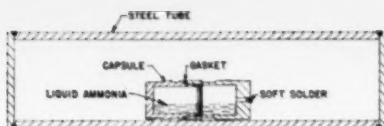

Fig. 1—Method of using an ammonia filled capsule for pressure nitriding the inner surface of tubes.
We have used two general methods of pressure nitriding with equal success; in one case the ammonia is introduced into the vessel in the liquid state and in the vapor state in the other. The choice of the method depends on the type of parts to be nitrided. Fig. 1 shows the arrangement used for nitriding the inner surface of alloy steel tubes. In this case, the ammonia is introduced by means of a small steel capsule containing the proper quantity of liquid ammonia to nitride the inner wall of the tube to the depth desired. The cover of the ammonia capsule is drilled with a small hole which is plugged with a low melting point solder. The ammonia capsule is then placed into the steel tube and end plates, or plugs, are welded onto the tubes as shown. As the tube is heated in the furnace, the soft solder melts and the ammonia vaporizes and expands throughout the interior of the tube to be nitrided. Other methods of releasing ammonia from the capsule, as a result of pressure, temperature, or mechanical manipulations, can be utilized—but the soft solder plug has proven entirely satisfactory. Such tubes can be rotated on
Fig. 2—This is the equipment used to fill capsule with liquid ammonia for use as shown in Fig. 1. A temperature of  $-50^\circ \text{ F}$ . is maintained in the refrigerator.
When introducing ammonia in a liquid state, as shown in Fig. 1, it is necessary to have information regarding the pressure obtained at the nitriding temperature with a given vapor density, or specific volume, of superheated vapor at the nitriding temperature. Fig. 4 shows the relation between density and pressure of superheated ammonia vapor for densities ranging from zero to 0.7 lbs. per cubic foot. This curve was obtained by the extrapolation of published data on the thermodynamic properties of ammonia(5)(6) which are limited to a temperature of approximately 400° F. The actual pressures obtained will be somewhat higher because of increasing dissociation of ammonia at higher temperatures. The reaction of equations (A) and (B) indicate that the pressures shown in Fig. 4 could reach values twice as great as those shown if the ammonia dissociated completely into N2 and H2 inasmuch as there are twice as many gas molecules after complete dissociation. However, even with complete dissociation, the pressure could double only if there were no combination of nitrogen with the steel to be nitrided and no loss of hydrogen by diffusion. In practice, we have not observed pressure increases more than 11% above the values shown in